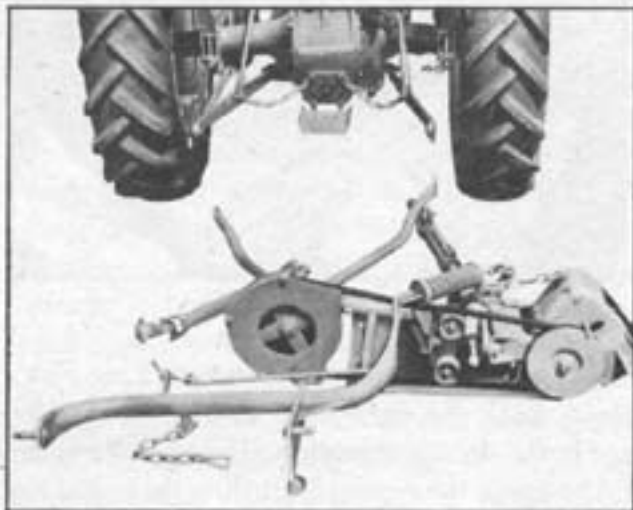

Fig. 7 Back Up to Mower
4. Start and back the tractor so that its rear wheels straddle the left and right lower struts. Lower the tractor links with the hydraulic lever. See Fig. 7.